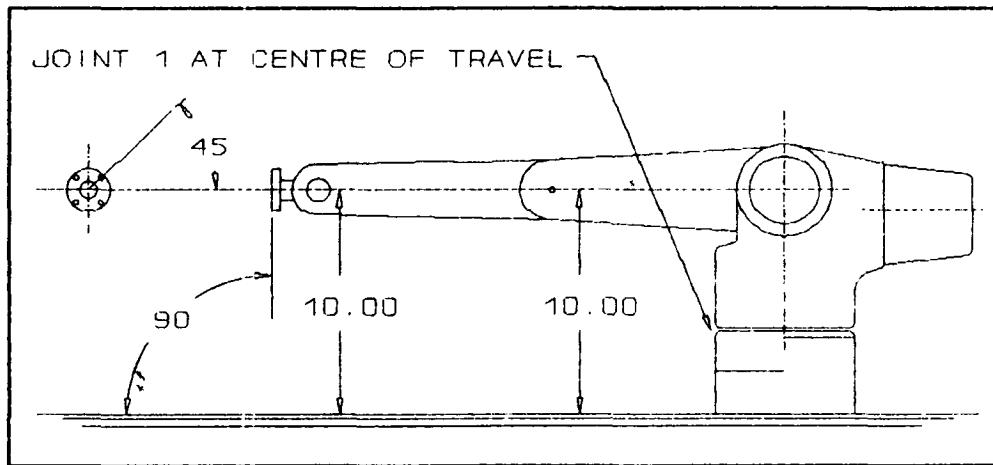

Figure A-1 Pose of the arm at true "zero" (CALRDY Pose)
- 4 Move arm to zero position as shown in figure A-1.